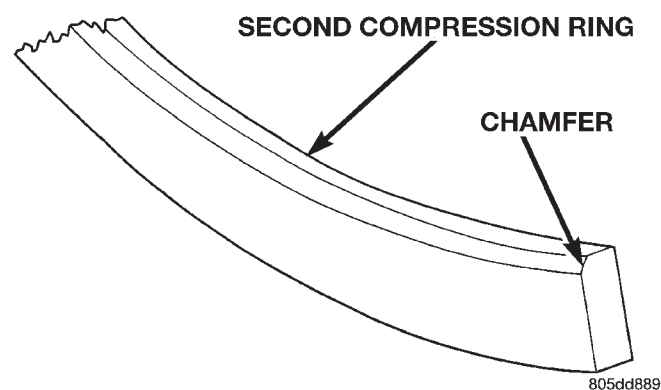

Fig. 10 Second Compression Ring Identification
(7) The second compression ring has a chamfer on the BOTTOM of the inside edge (Fig. 10).